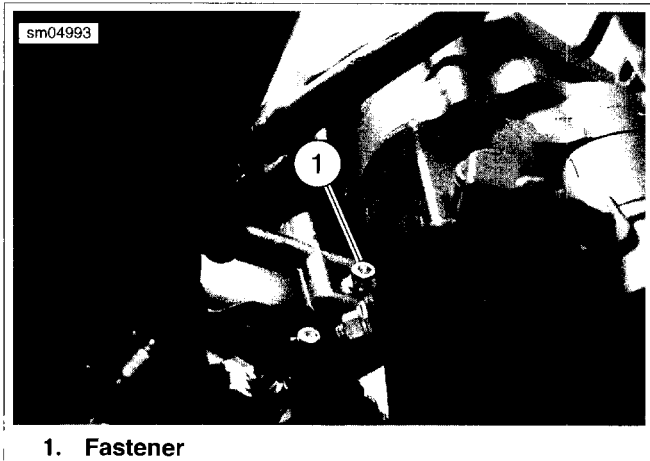

Figure 3-31. Return Oil Manifold
6. See Figure 3-31. From right side of motorcycle, remove fastener (1) securing oil manifold.
3. See Figure 3-31. Slide oil manifold onto rigid lines and secure with screw (1). Tighten to 84-108 **in-lbs** (9.5-12.2 Nm).